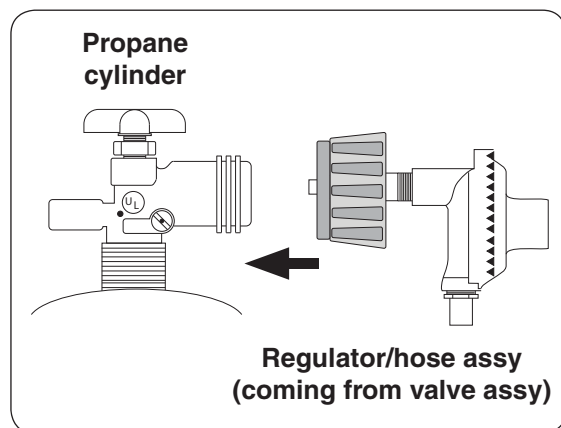

Fig. 17-1 Connecting to an L.P. cylinder
2. Attach the regulator end of the hose assembly to a propane cylinder (not included) and tighten (see Fig. 17-1).